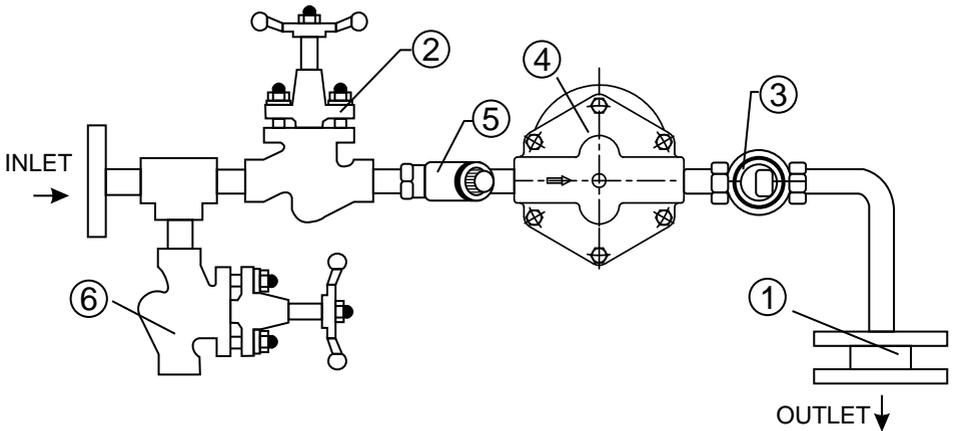

Figure 4: Single Orifice Float trap module
**5.** Installation Guidelines : (Refer to Figure 4, 5, and 6)
3. Ensure the availability of all components as shown in Figure 4, to ensure the operation of the trap
### 6.1 Flushing of Lines: (Refer to Figure 4)
### 6.2 Commissioning: (Refer to Figure 4)